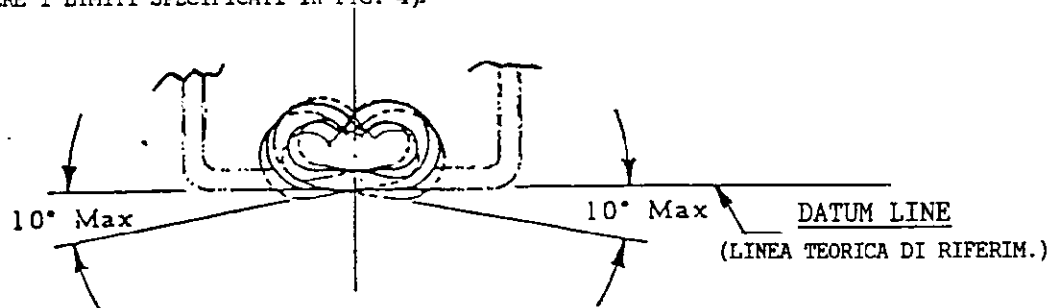

Figure 4
- Twist or roll of the crimped contact shall not exceed the limits specified in Figure 4. (LA "TWISTATURA" DELL'AGGRAFFATURA RISPETTO AL CORPO TERMINALE NON DEVE ECCEDERE I LIMITI SPECIFICATI IN FIG. 4).